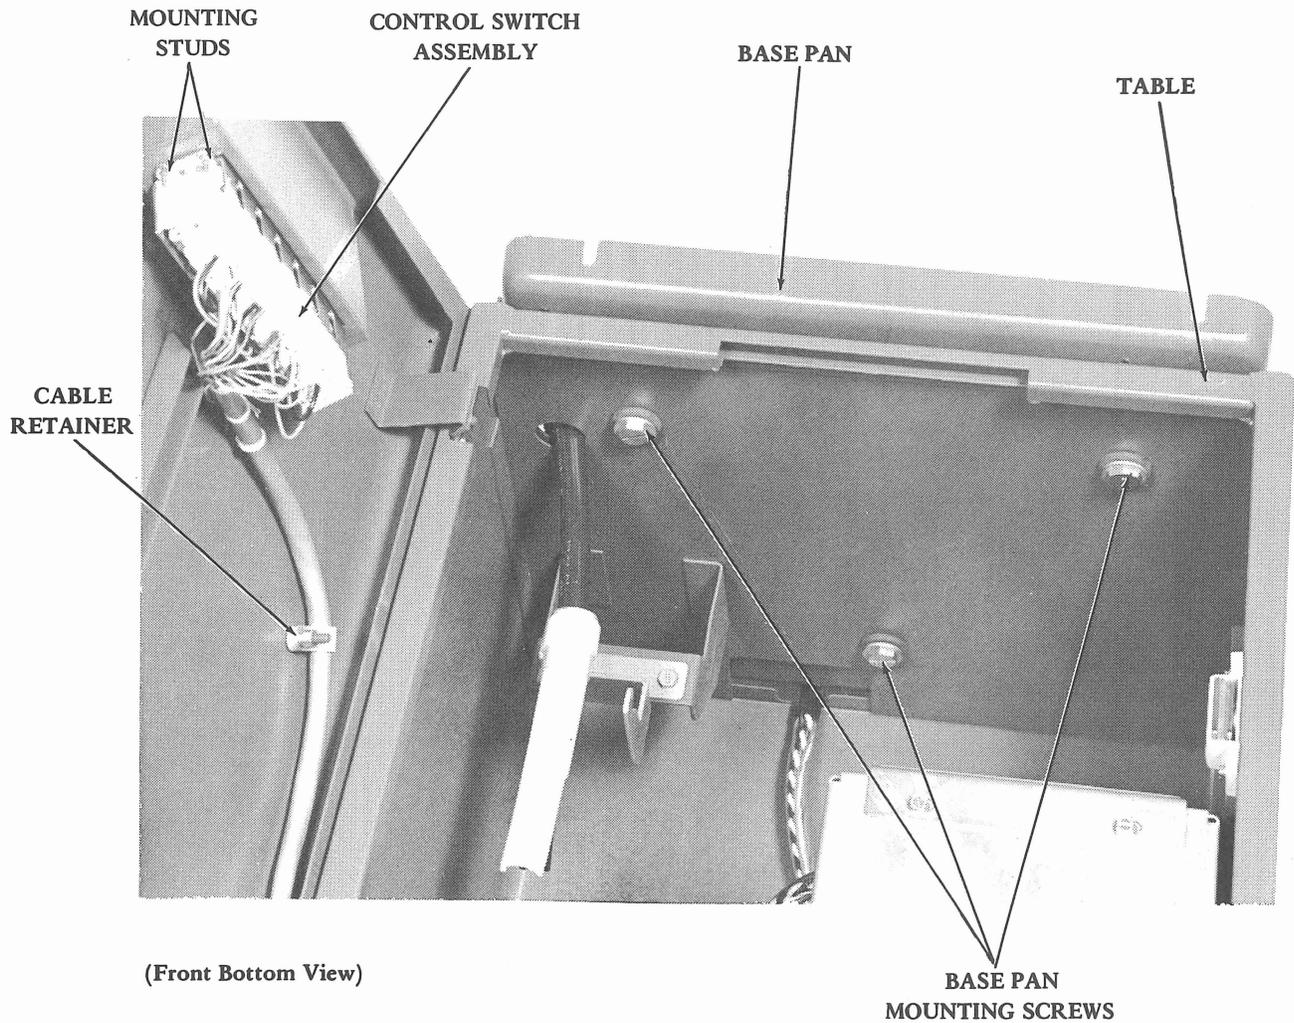

Figure 8 - Base Pan and Control Switch
2.10 To remove the base pan (Figure 8), proceed as follows.
2.11 To remove the control switch assembly (Figure 8), proceed as follows.